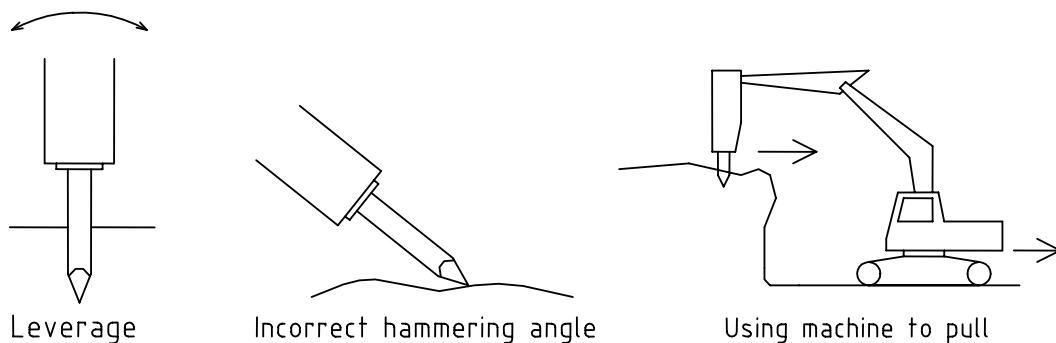

Fig. 1
1. The main cause of increased fatigue stress in working tool is any form of side pressure during service which creates bending the tool as a lever, using the incorrect driving angle or attempting to break ground using the pull of the machine are all detrimental to the life of a working tool and should be avoided (see Figure 1).